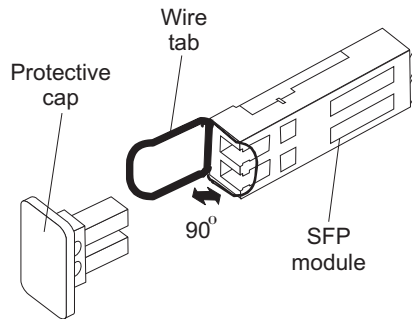

Figure 18. Unlocking the SFP module latch - wire variety
- For SFP modules that contain wire tabs, unlock the SFP module latch by pulling the wire latch outward 90°, as shown in Figure 18 on page 36.